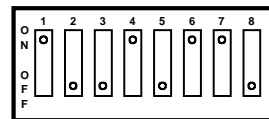

Figure 4. Receiver #2 Coding
**Receiver #2:** Switch 1 ON, switch 2 OFF (see Figure 4)